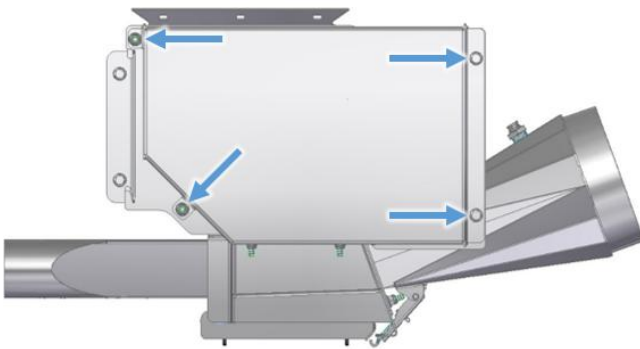

Figure 31
- The 2 nuts and 2 bolts on the drive cover are unscrewed and the cover is removed (see Figure 31).
- Unscrew the 2 nuts and 2 bolts on the drive cover and take off the cover (see Figure 31).